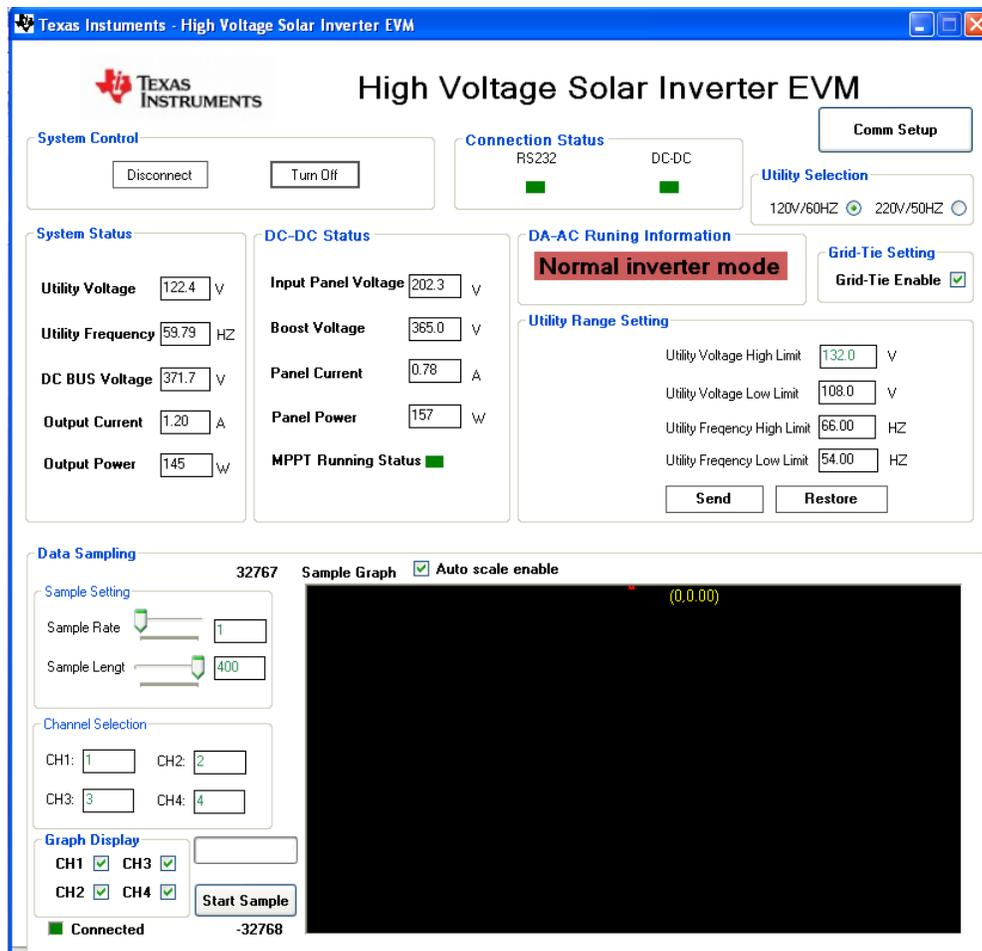

Figure 9. HV Solar Inverter GUI Snapshot for Grid-Tie Operation
- For example, the *Utility Voltage* will show about 120 V_{RMS} , the *Utility Frequency* will read 60 Hz, the *Input Panel Voltage* will be about 220 V, the *Panel Power* will be about 165 W, the *DC BUS Voltage* will read about 380 V, and so on. The GUI snapshot on Figure 9 shows these parameters under this condition.